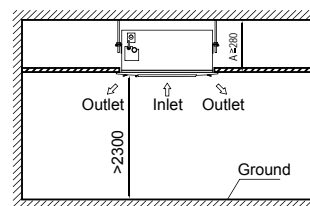
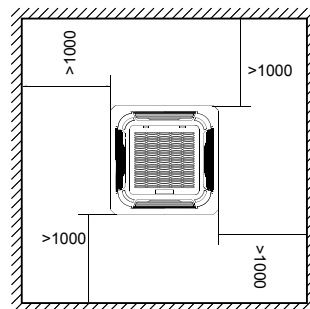
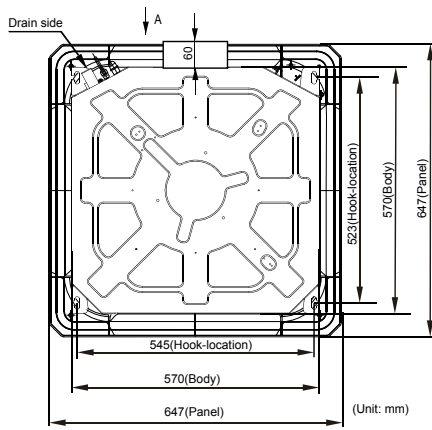
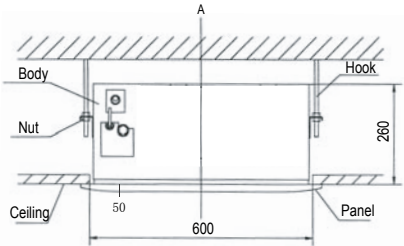

Fig.5-1
Fig.5-2
Fig.5-3
Fig.5-4
(Refer to Fig.5-1, Fig.5-2, Fig.5-3 for specification.)
- 1 Please cut a quadrangular hole of 600×600mm in the ceiling according to the shape of the installation paper board. (Refer to Fig.5-3, Fig.5-4)